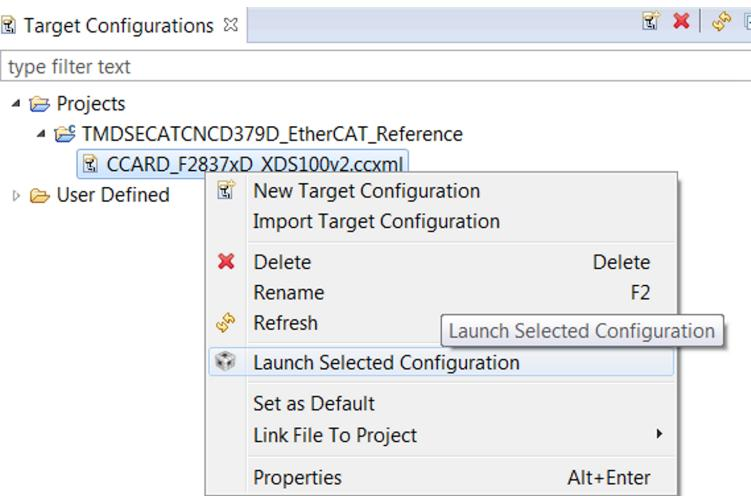

Figure 24. Launch Selected Configuration
9. Launch target configurations by selecting the target configuration, as shown in Figure 24. The target configurations window is visible from view → Target Configurations option.